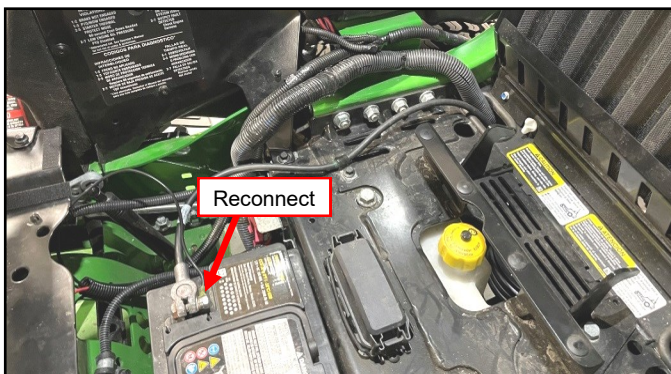
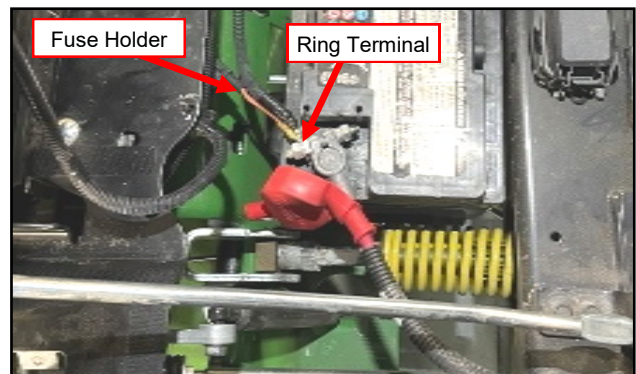

Fig. 2.30b (Run Harness to (-) Terminal on Battery)
Fig. 2.30a (Run Harness to (+) Terminal on Battery)
**2.30** Run the harness (fuse holder side) to the Positive Terminal on the Vehicle's battery per Figure 2.30a. Next, run the black wire ring terminal to the disconnected battery wire and install onto the ground lug. Reconnect lug onto the battery per Figure 2.30b.